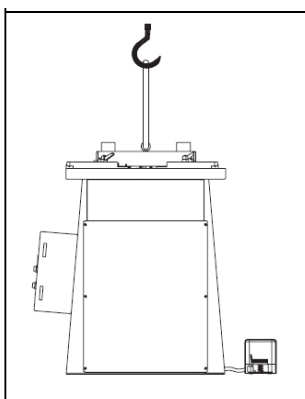

Fig. 10: Positioning with the crane
Step 5: Use a crane to lift the machine from the pallet and move it to the working position (Fig.10).